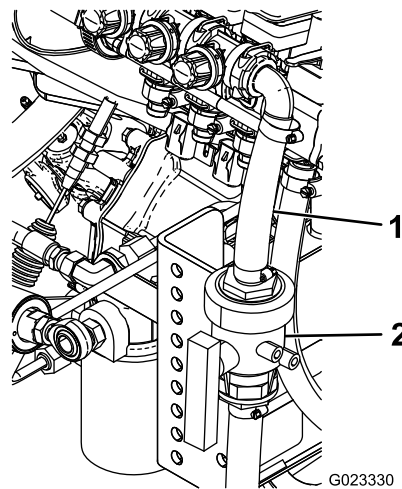

Figure 12
13. Connect the 2 hose ends to the supply hose valve using 2 hose clamps (Figure 12).